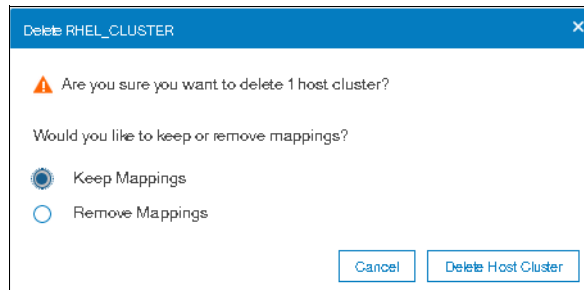

Figure 5-110 Confirm host cluster object deletion
3. A dialog box will appear asking you to confirm the deletion of host cluster object along with your selection on mappings as shown in Figure 5-110.